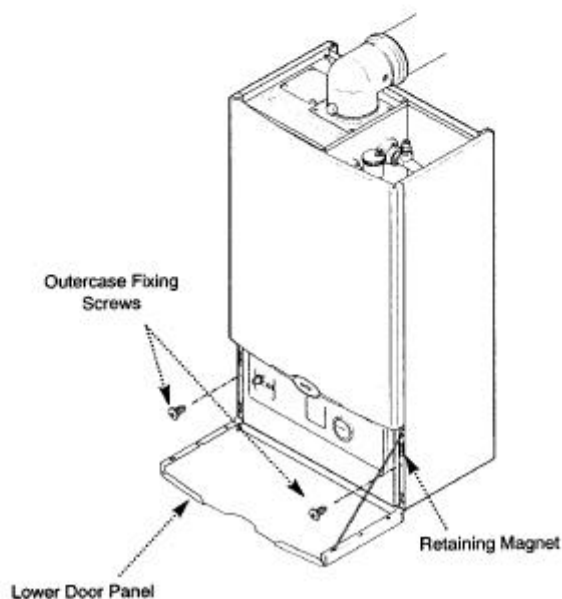

Fig. 37
2. Insert the two fixing screws into the sides of the chassis (Fig. 37).
3. Close the door against the retaining magnets (Fig. 37).